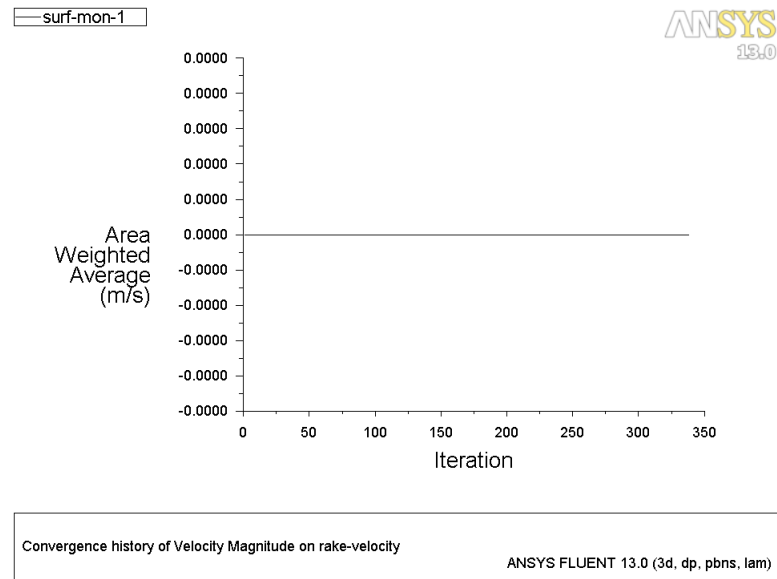

Figure 5: Convergence History of Velocity Magnitude on rake-velocity
13. Continue the calculation of Energy and Discrete Ordinates by requesting another 500 iterations (Figures 5, 6, and 7).